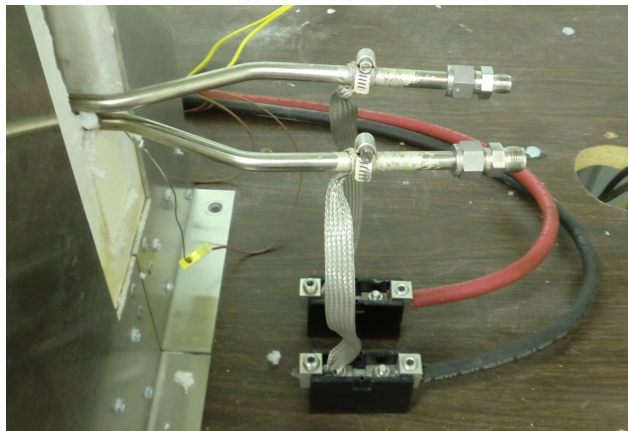

Figure 25
18. Make the appropriate gas inlet and current cable connections (Figure 25). Usually the outlet tubes are left unconnected during heat-up to allow easy clean-up of any binders that condense at the end of the tubes.